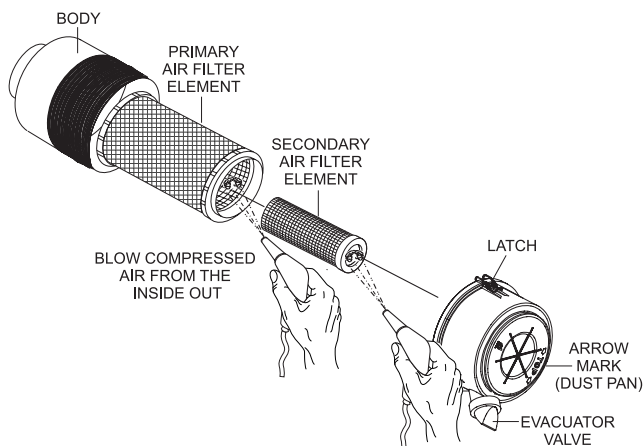

Figure 63. Engine Air Cleaner
This Isuzu diesel engine is equipped with a replaceable, high-density, paper air cleaner element (Figure 63). The air cleaner is also equipped with an inner (secondary) element that is used as a backup filter should the primary element become damaged. Check the air cleaner daily or before starting the engine. Replace the air cleaner as needed.
1. Release the latches that secure the cover to the air cleaner body (Figure 63).
2. Remove the **air cleaner cover** (Figure 63) and set it aside.
3. Remove both the primary and secondary air cleaner elements (Figure 63).
5. To clean the **primary element** (paper air filter) as shown in Figure 63, tap the filter element several times on a hard surface to remove dirt, or blow compressed air, not to exceed 30 psi (207 kPa, 2.1 kgf/cm²), through the filter element from the inside out.
8. Clean the inside of the **air cleaner body** (Figure 63).